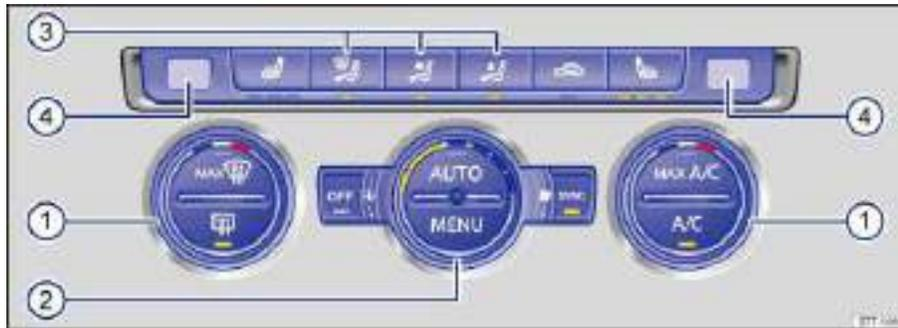

Fig. 158 In the center console: Climatronic controls.
Button/Knob	More information: Climatronic ⇒ fig. 158 .
- Press the **MENU**  ⇒ fig. 158 button.